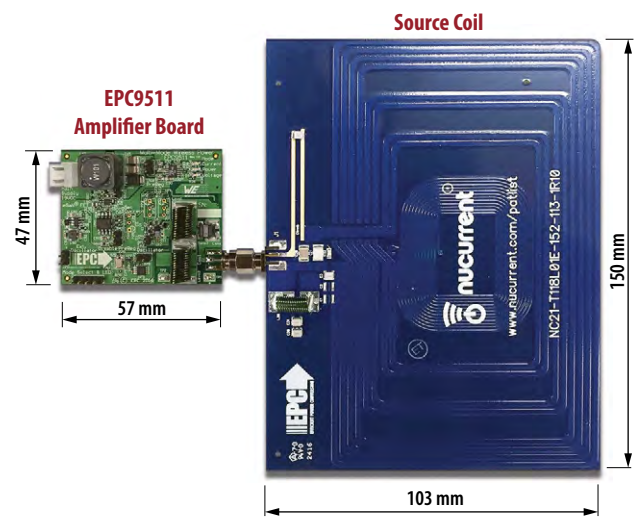
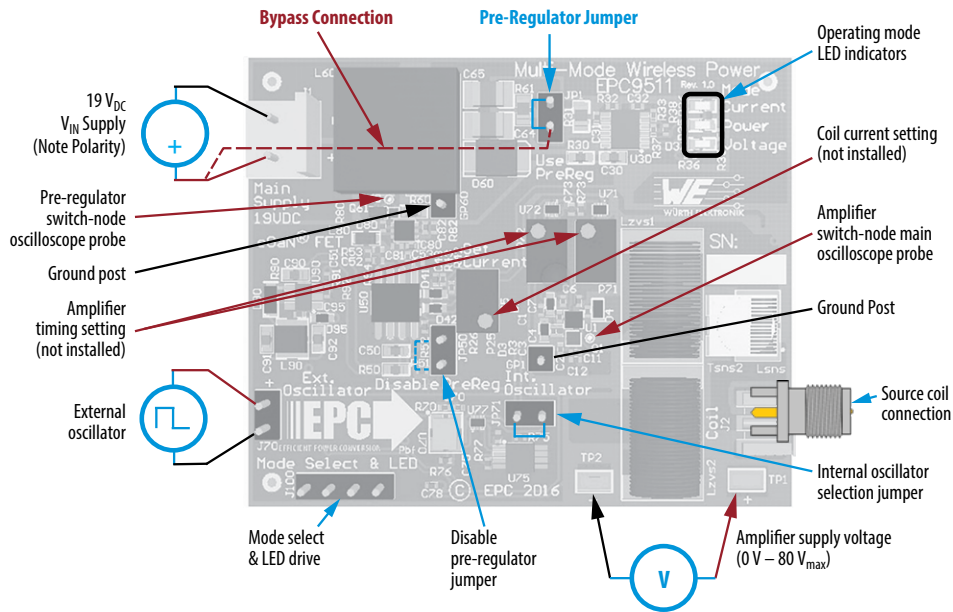

Figure 1: EPC9121 wireless power evaluation system
Figure 5: Proper connection and measurement setup for the EPC9511 amplifier board.
The EPC9121 wireless power system comprises the four boards (shown in figures 1 and 2) namely:
The assembly of the EPC9121 wireless power transfer demonstration kit is simple and shown in figure 1. The source coil and amplifier have been equipped with SMA connectors. The source coil is simply connected to the amplifier.
The EPC9511 amplifier board is easy to set up and evaluate the performance of the eGaN FET in a wireless power transfer application. Refer to figure 1 to assemble the system and figures 5 through 11 for proper connection and measurement setup before following the testing procedures.
2. With power off, connect the main input power supply bus to J1 as shown in figure 5. Note the polarity of the supply connector.
2. With power off, connect the main input power supply bus to the bottom pin of JP1 and the ground to the ground connection of J1 as shown in figure 5.